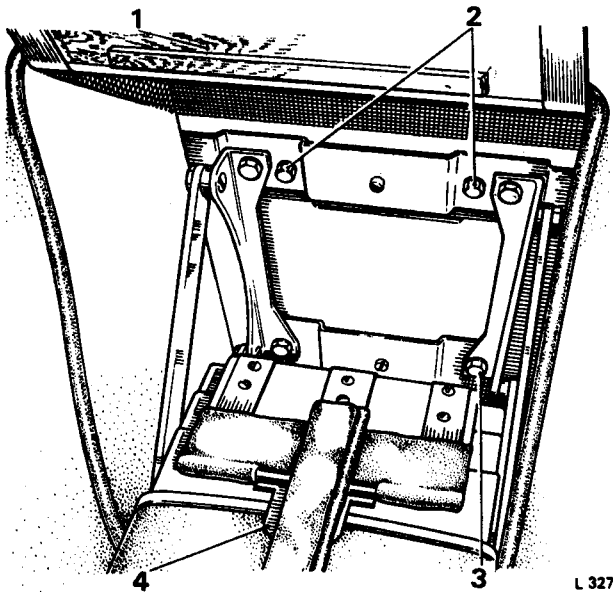

FIG. C44 POSITION OF THE REAR SEAT BACKREST SECURING SETSCREWS
6. Remove the two $\frac{7}{16}$ in. A/F setscrews and washers securing the rear seat back rest to the car body (see Fig. C44).